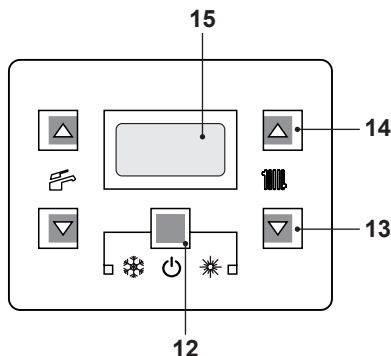
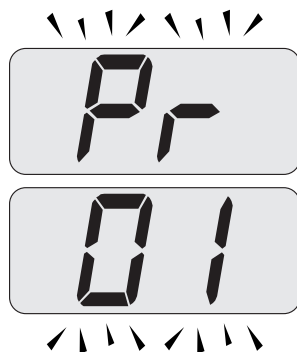
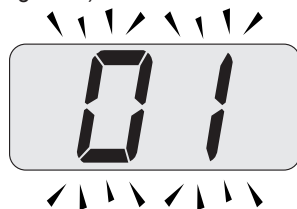

Fig. 8.31
Fig. 8.32
Fig. 8.33
- Enter the "programming mode" by sequentially pressing and holding in keys, 12 - 13 and then 14 (Fig. 8.31) for 10 seconds until the letters **Pr** that alternate with code **01** are displayed on the LCD display, indicating that "parameter 01" (Fig. 8.32) has been activated.
- Press keys 12 and 14 (Fig. 8.31) at the same time until the value of parameter 01 (38=**Advance Plus 25S ERP**, 39=**Advance Plus 30S ERP**) is displayed on the LCD display (Fig. 8.33).
- Press keys 12 and 13 (Fig. 8.31) at the same time to exit without changing the value (return to the parameters list Fig. 8.32).
- Press sequentially keys, 12 - 13 and then 14 (Fig. 8.31) and hold in for 10 seconds to exit the "programming mode".